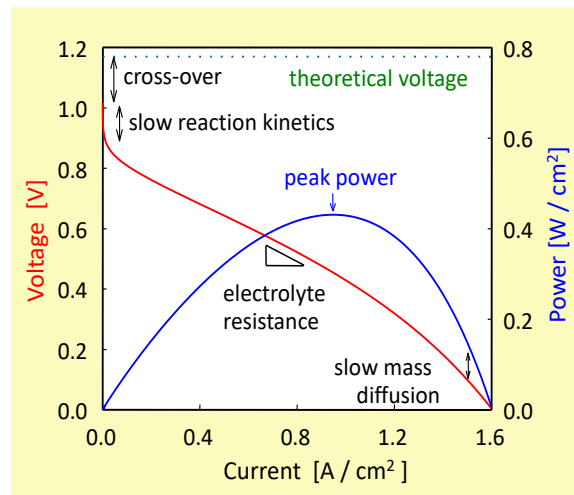

Figure 1
- (a) Consider a proton exchange membrane fuel cell (PEMFC) and its voltage curve shown below in Figure 1. Possible voltage losses are shown in the same Figure. Explain in 1-2 sentences the cause for each of these voltage losses.